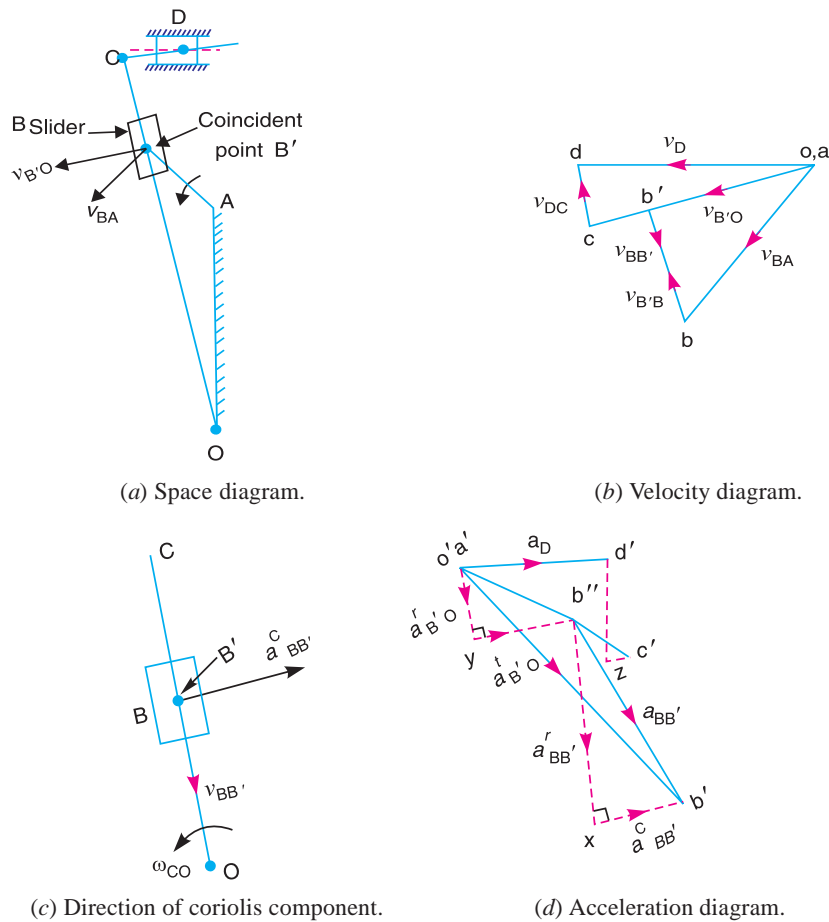

Fig. 8.29
First of all draw the space diagram, to some suitable scale, as shown in Fig. 8.29 (a). Now the velocity diagram, as shown in Fig. 8.29
**Note:** Since we have to find the coriolis component of acceleration of the slider  $B$  with respect to the coincident point  $B'$ , therefore we require the velocity of  $B$  with respect to  $B'$  i.e.  $v_{BB'}$ . The vector  $b'b$  will represent  $v_{BB'}$  as shown in Fig. 8.29 (b).
Now the acceleration diagram, as shown in Fig. 8.29 (d), is drawn as discussed below:
These two components are mutually perpendicular. Therefore from point  $b'$  draw vector  $b'x$  perpendicular to  $B'O$  i.e. in a direction as shown in Fig. 8.29 (c) to represent  $a_{BB'}^c = 6.45 \text{ m/s}^2$ . The